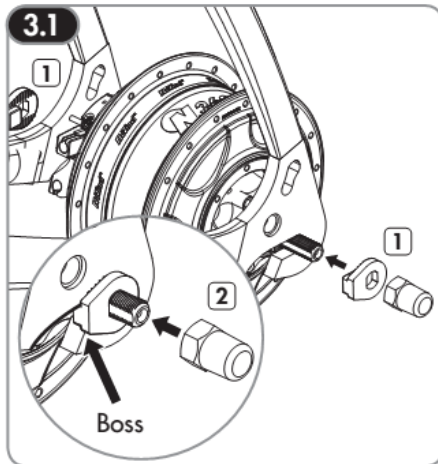

Figure 11 : Replace the anti-rotation washers and nuts
- 1 - The cable tension can be adjusted using the tensioners (item 1 in Figure 11) located on the handle.